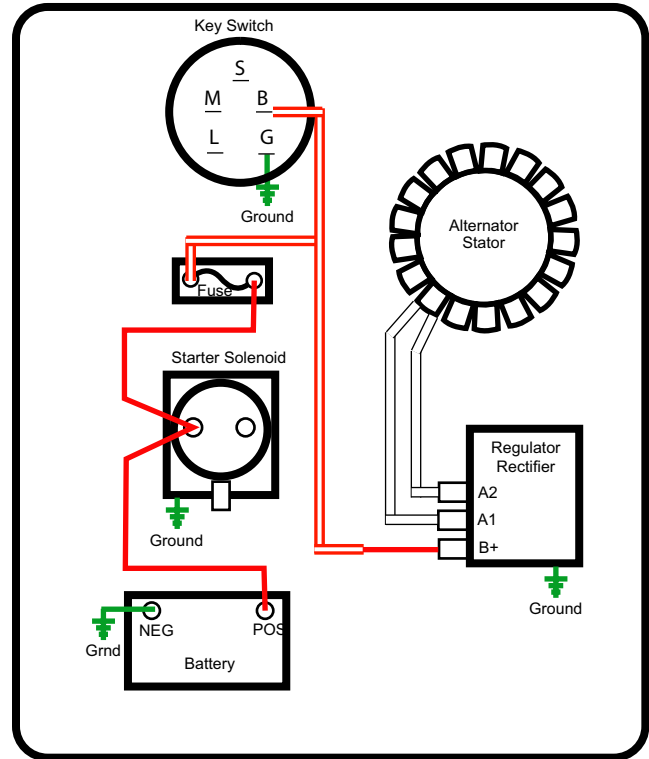

Figure 7.17
5. From the harness connector: See Figure 7.17.